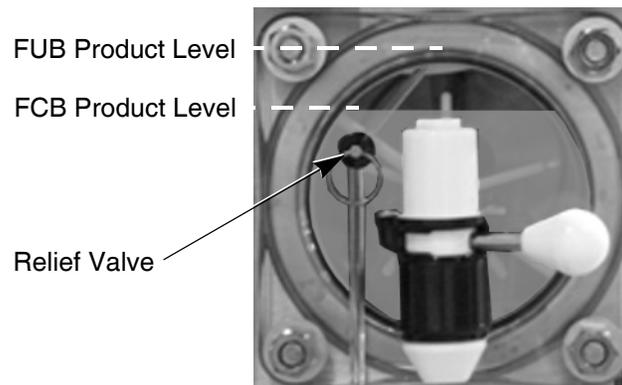

Figure 6.
2.	Fill the barrel by pulling to open up the barrel faceplate relief valve for the barrel (See Figure 6.). The product will then begin to fill inside the barrel, Continue filling the barrel to the scribe line on the faceplate, as shown in Figure 6.